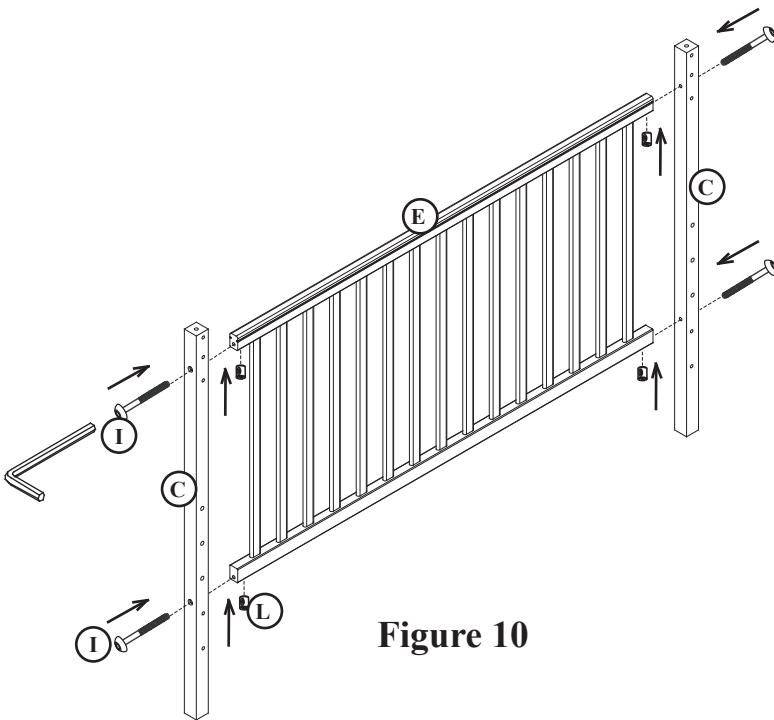
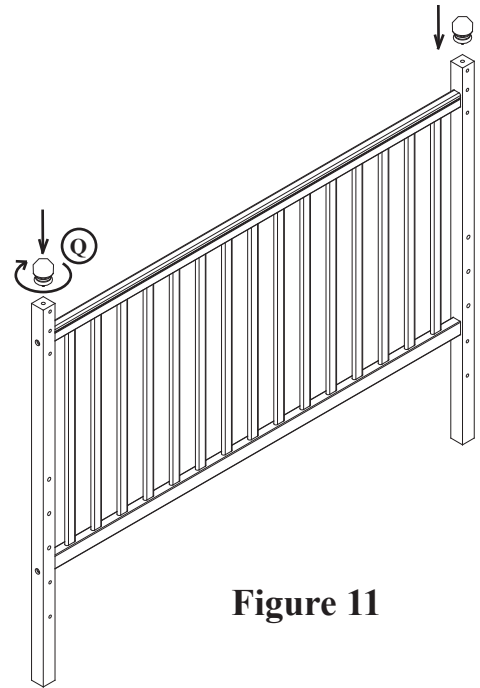

Figure 10
Figure 11
You have the option to convert crib to a Full size Bed. Simply follow steps in reverse order to deattach the crib , Then attach the rear legs(C) to the fixed side(E) as shown in Figure 10, and screw the decorative ball(Q) to the top of each rear leg as shown in Figure 11.